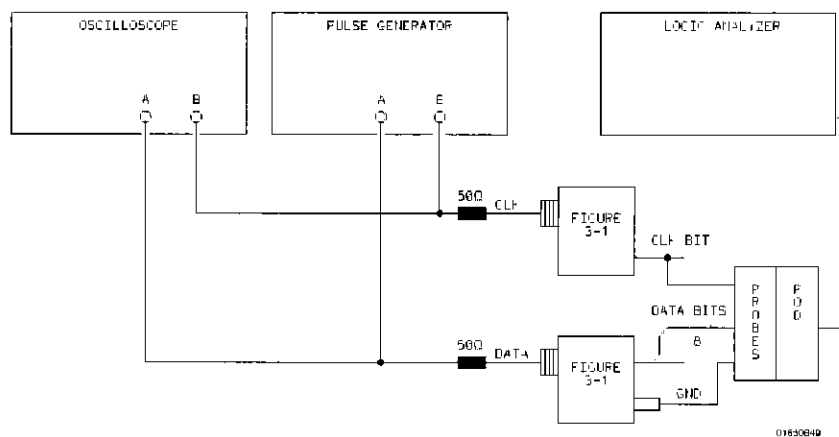

Figure 3-25. Setup for Data Test 6
1. Connect the HP 1650B/51B and test equipment as in figure 3-25 by connecting channels 0-7 of the pod under test to the test connector. During demultiplexed clocking only the lower eight bits of each pod are used.